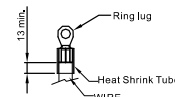

Figure 2
2. Figure 2 shows the specification of insulated heat shrink tubing that comply with UL (600V, YDPU2).